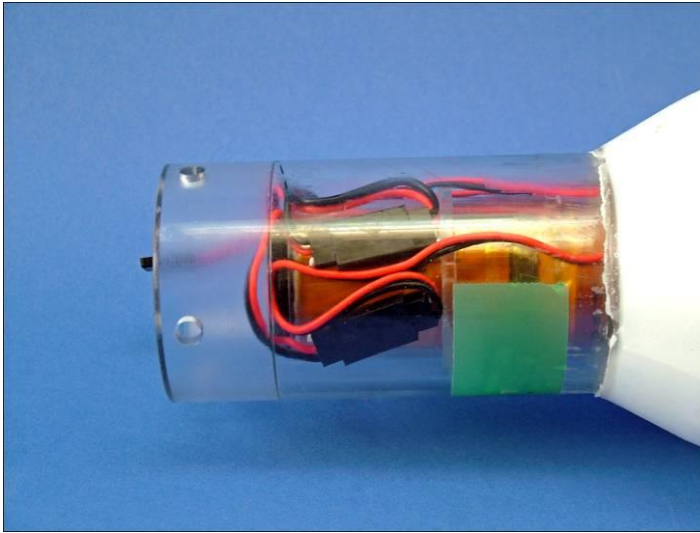

Fig. 7 GPS-ARGOS battery pack installed with connectors properly placed between battery holder assembly and housing.
3. Battery connectors must be connected and placed in the space between the battery holder assembly and the inside wall of the housing. Connectors and wires must be below or at the same height of the foam padding on the end of the GPS-ARGOS battery pack. **(Fig. 7)**